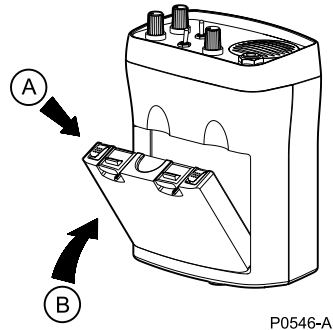

Figure 7 - Battery pack installation
- e) Place the base of the battery pack at the rear of the battery compartment (A). Push the front edge of the battery pack firmly into position (B). The two battery clips will “click” into position to securely hold your battery pack in place (Fig 7).
- b) Place the base of the battery pack at the rear of the battery compartment (A). Push the front edge of the battery pack into position (B). The two battery clips will “click” into position to hold the battery pack in place (Fig 7).